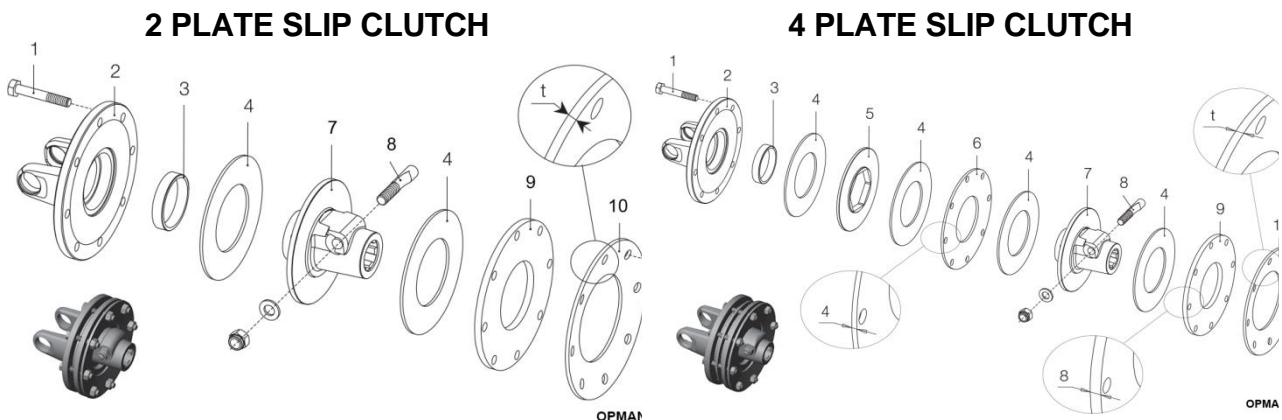

Figure 5.36
Figure 5.36 and Figure 5.37 give a full breakdown of the slip clutches and where each type can be found on a machine.
- 5.4.1.6 Assemble in sequence the other parts as shown in Figure 5.36 and Figure 5.37, depending on the PTO shaft in question